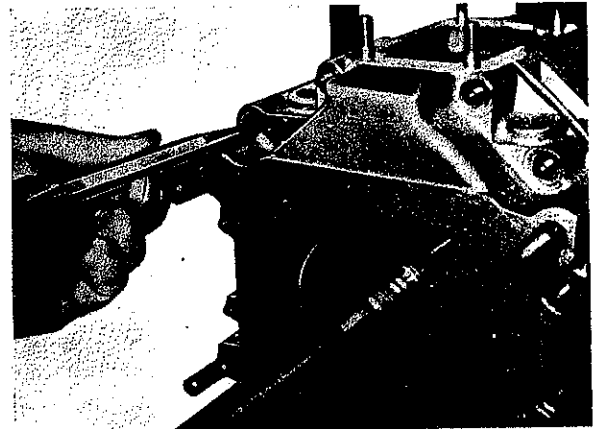

Fig. 10
7.1 Knock-out two set pins (116) (Fig 10).